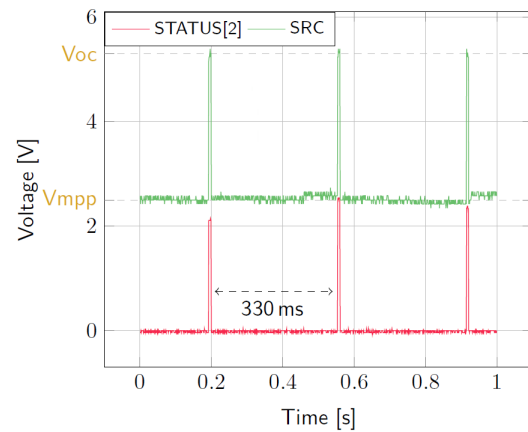

Figure 4: **SRC** and **STATUS[2]** while energy is extracted from **SRC** (**BATT** under V_{OVCH})
- **SRC**: regulated at V_{MPP} , which is a voltage equal to the open-circuit voltage (V_{OC}) multiplied by the MPP ratio defined in Table 4. During the MPP evaluation, the AEM30940 stops pulling current from **SRC** and thus, V_{SRC} rises to V_{OC} (see Figure 4). Note that V_{SRC} must be higher than 380 mV to allow the AEM30940 to coldstart.
- **STATUS[2]**: asserted each time the AEM30940 performs a MPP evaluation (See Figure 4).